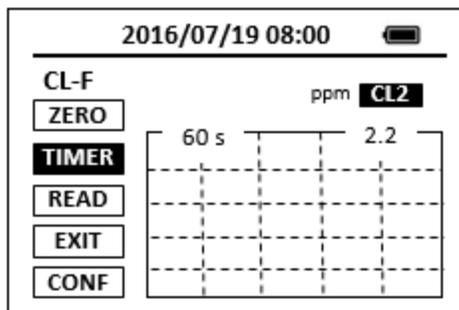

Figure 13. Single Timer Method
Most of colorimetric methods have only one timing step. As an example, in the DPD free chlorine method, it takes one minute for the DPD powder reagent to completely react with chlorine in the water sample. The DPD free chlorine method has a single one-minute timing step. Figure 13 shows the main page of a method with a single timing step.
1. Place the sample vial filled with the water sample in the SP-910 sample vial compartment and press the **ZERO** button. The SP-910 will display the page shown in Figure 13.